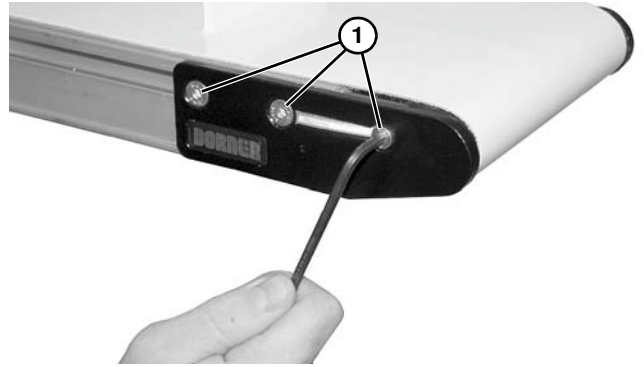

Figure 72
2. Install the head plate over the drive pulley and attach the head plate to the conveyor frame with three screws (**Figure 72, item 1**). Tighten screws to 60 in-lb (7 Nm).